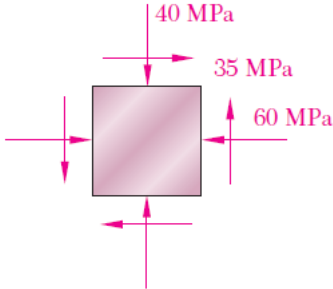

Fig 5
- a. For the given state of stress in Fig 5, (i) Draw the Mohr's circle. (ii) determine the principal planes, (iii) determine the maximum in plane shearing stress, (iv) determine the corresponding normal stress. [20]